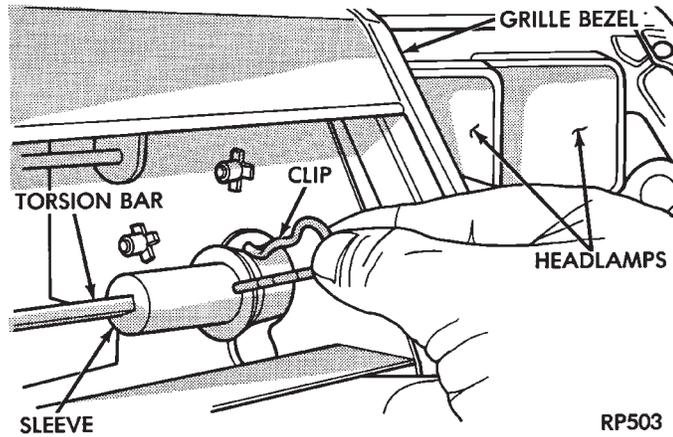

Fig. 3 Torsion Bar Sleeve Clips
- (1) Remove the radiator grille from the grille bezel. Refer to Group 23, Body.
- (2) Remove the retaining clip from the torsion bar coupling sleeve (Fig. 3).